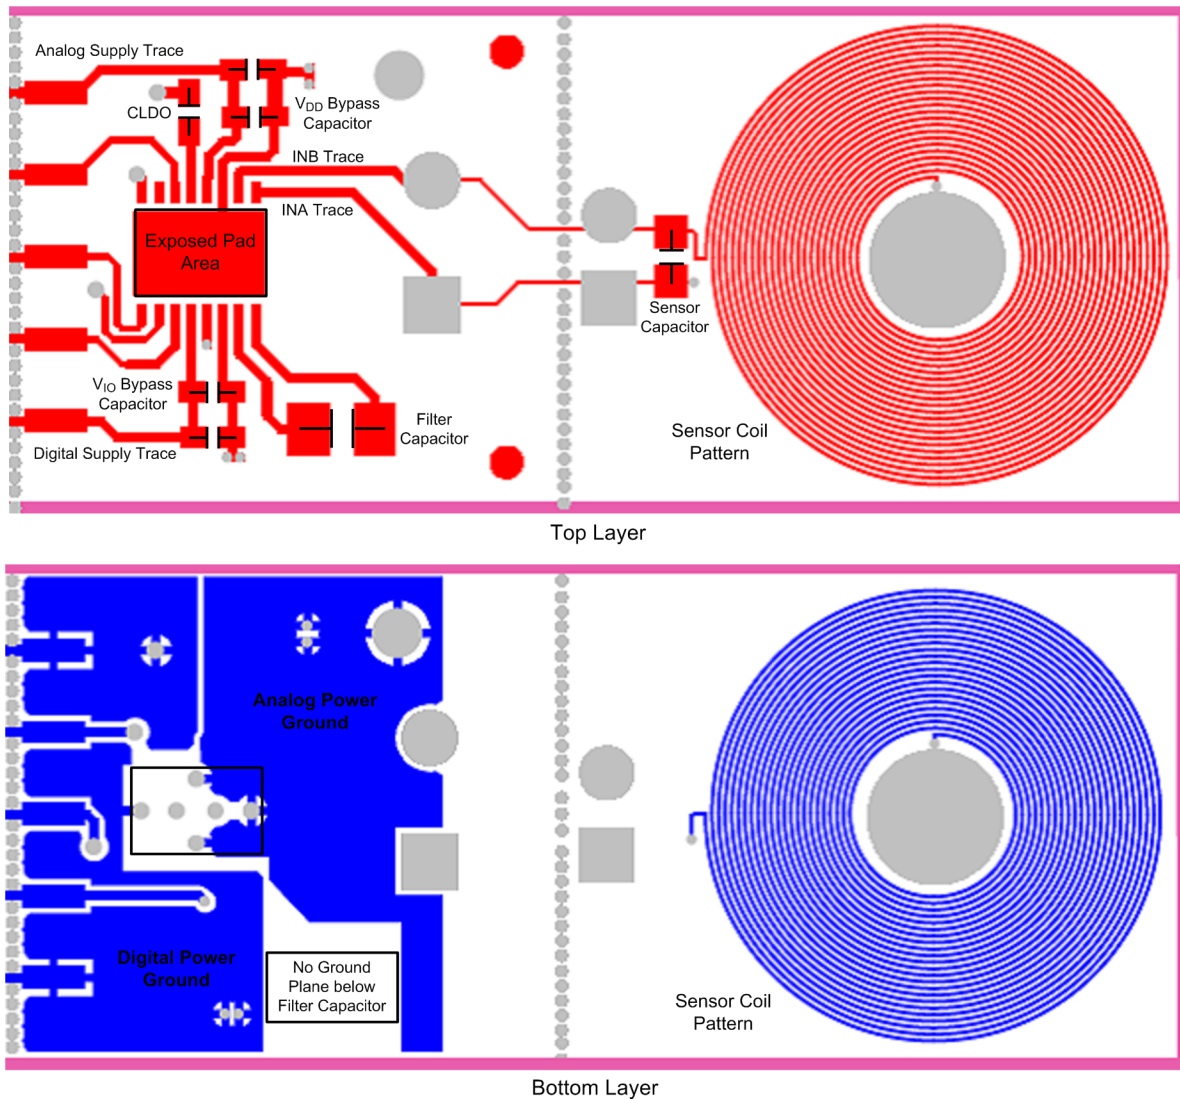

Figure 22. LDC10xx Board Layout
- The optimum placement is closest to the VDD/VIO and GND/DGND terminals of the device. Care should be taken to minimize the loop area formed by the bypass capacitor connection, the VDD/VIO terminal, and the GND/DGND terminal of the IC. See Figure 22 for a PCB layout example.
- Use of two separate ground plane for GND and DGND is recommended with a start connection. See Figure 22 for a PCB layout example.